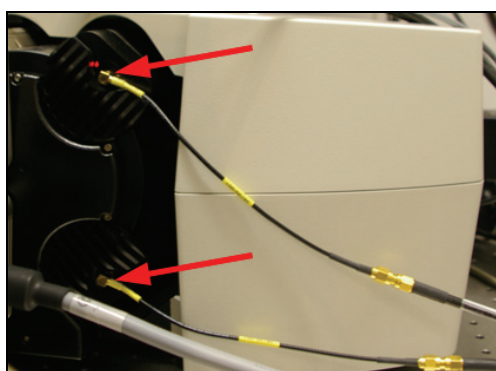

Figure 192: SMD signal cable on the scan head's internal SP FLIM PMTs
3. Connect the SMD signal cable of the detector in the scan head (**Figure 192**) to the PHR 800 router's CFD inputs (**Figure 191**).